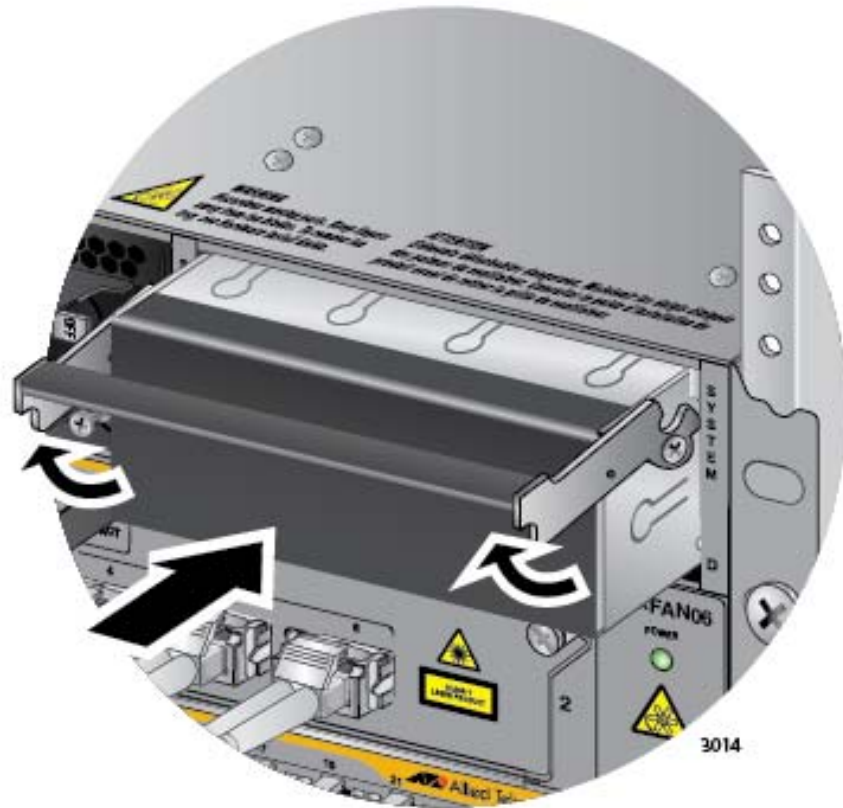

Figure 169. Installing a Blank Power Supply Slot Cover
13. Place the locking handle on the slot cover in the up position and slide the cover into the empty power supply slot. Refer to Figure 169 on page 268.